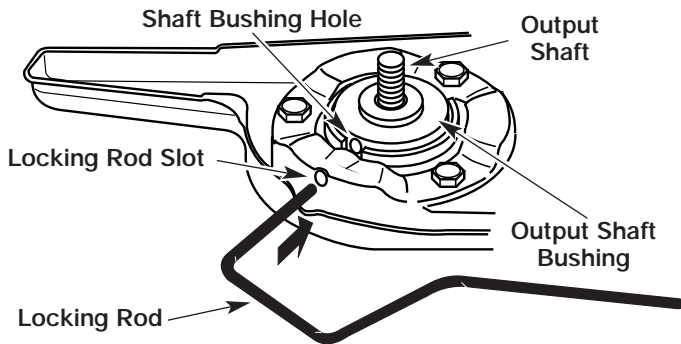
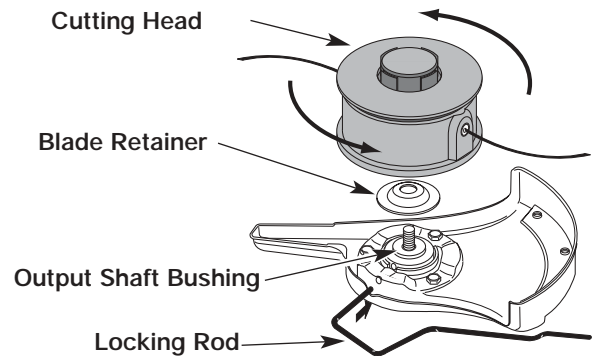

FIGURE 8
FIGURE 15
1. Align the shaft bushing hole with the locking rod slot and insert the locking rod into the shaft bushing hole, Figure 8.
6. Align the shaft bushing hole with the locking rod slot and insert the locking rod into the bushing hole, Figure 8.
1. Align the shaft bushing hole with the locking rod slot and insert the locking rod into the bushing hole, Figure 8.
5. Align the shaft bushing hole with the locking rod slot and insert the locking rod into the shaft bushing hole, Figure 8. Place the blade retainer on the output shaft with the flat surface against the output shaft bushing as shown in Figure 15. Screw the cutting head counterclockwise onto the output shaft. Tighten securely.